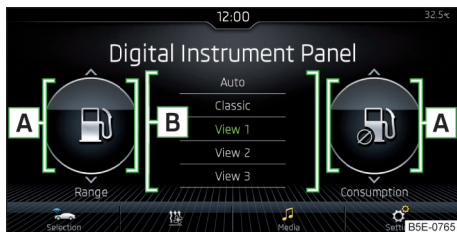

Fig. 39
- ▶ In the areas **A** » Fig. 39, the desired additional information can be selected by moving your finger vertically across the display.